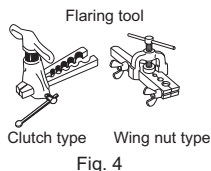
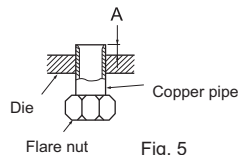

Fig. 4
Fig. 5
- 5) Insert the drain hose fully into the drain pan at the rear right of the indoor unit. (Fig. 4)
- 6) Insert the drain hose into wall hole sleeve (C), and hook the upper part of indoor unit on installation plate (1). Then, move the indoor unit completely to the left in order to make placing the piping in the back space of the unit easier.
- 7) Cut out a piece of cardboard from the shipping box, roll it up, hook it onto the back rib, and use it as a spacer to lift the indoor unit. (Fig. 5)
- 8) Connect the refrigerant piping with the extension pipe (B).
- 9) Thrust the lower part of the indoor unit into the installation plate (1).
- 4) Flaring work (Fig. 4, 5). Firmly hold copper pipe in the dimension shown in the table. Select A mm from the table according to the tool you use.